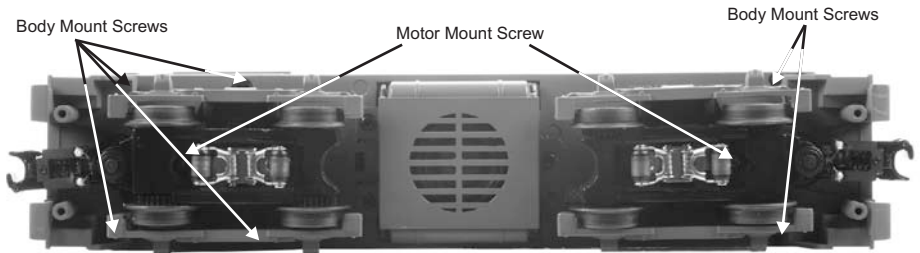

Figure 4: Body Mount Screws
1. To access the gear box, remove the cab from the chassis by unscrewing the body mount screws as seen in fig. 4 and lifting the cab from the chassis.